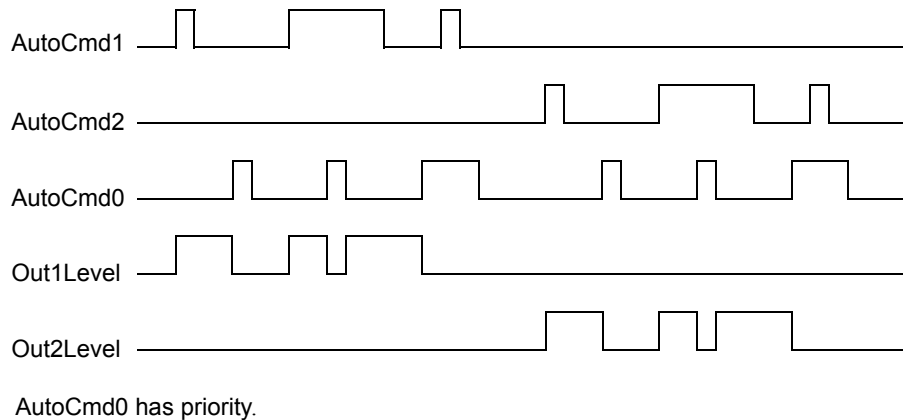

Figure 154. Status relations of OutLevel parameters and Auto commands (BiCore)
- In Auto mode, there are additional parameters *AutoCmd2*, *Out2* and *Out2Level*. The influence of *AutoCmd* parameters on *OutLevel* parameters can be seen in Figure 154 on next page.